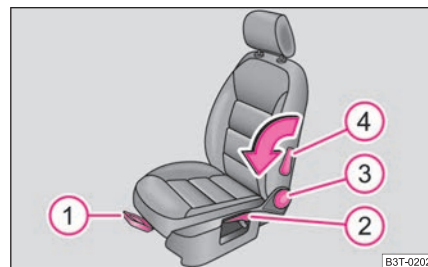

Fig. 62 Controls at seat
- Pull the lever ① ⇒ fig. 62 up and push the seat into the desired position.
- Release the lever ① and push the seat further until the lock is heard to engage.
- Relieve any pressure on the backrest (do not lean on it) and turn the handwheel ③ ⇒ page 71, fig. 62 to adjust the desired angle of the backrest.